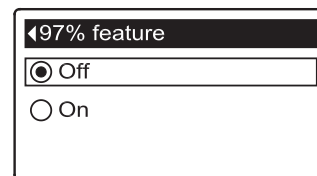

FIG. 77
8c. 97% feature: If the desired option already has a black dot next to it (See Figure 77), go to Step 9. Otherwise, press the DOWN (▼) or UP (▲) buttons to scroll to the other option, then press SELECT (O) to choose it. If this feature is On, the conditioner/refiner will automatically recharge when 97% of capacity is used, at any time of day. Default is Off.